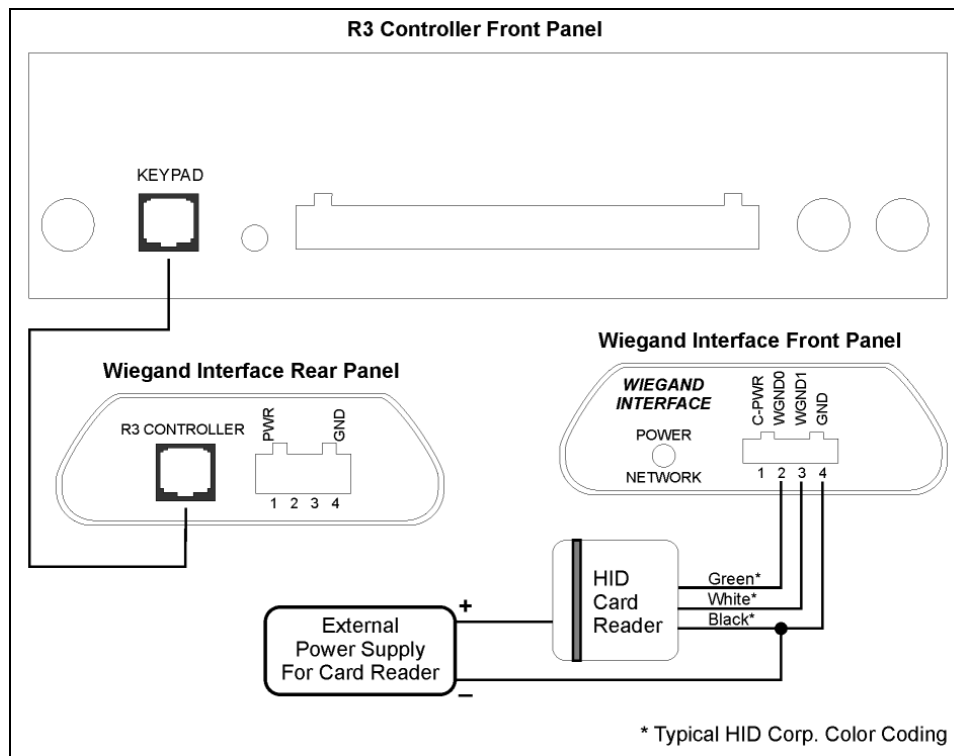

Figure 3-10: Wiegand Wiring Diagram (Card Reader Powered Externally)
Note: *The Wiegand interface itself is powered by the keypad jack. If a keypad is being used along with the Wiegand interface, or if an auxiliary device is being connected to the interface, we recommend that you use a supplementary +12VDC power supply connected to the power terminals located on the back of the interface. See Figure 3-10 on page 3-22.*
- 4 Refer to Figure 3-10 on page 3-22. If the card reader is powered externally: